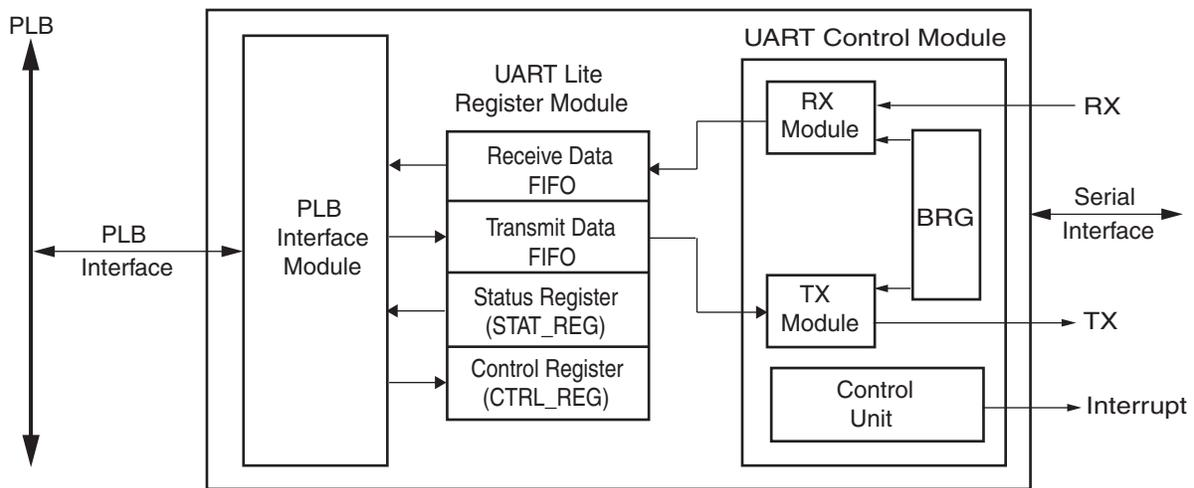

Figure 1: Block Diagram of XPS UART Lite
The XPS UART Lite modules are shown in the top-level block diagram in Figure 1.
**UART Lite Register Module:** The Register Module includes all memory-mapped registers (as shown in Figure 1). It interfaces to the PLB through the PLB Interface Module. It consists of an 8-bit status register, an 8-bit control register and a pair of 8-bit Transmit/Receive FIFOs. All registers are accessed directly from the PLB using the PLB Interface Module.